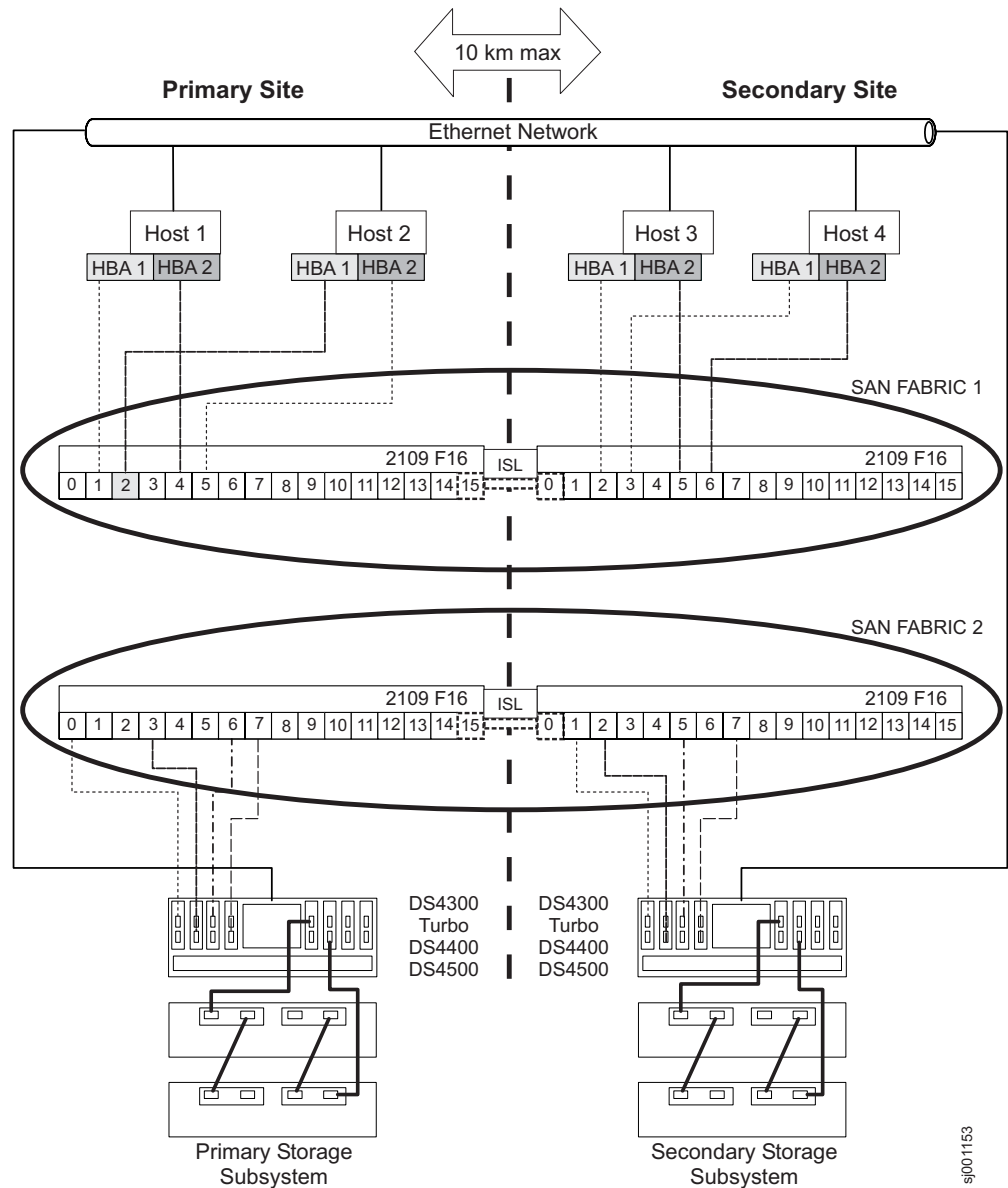

Figure 41. Highest Availability Campus configuration
Figure 41 on page 117 shows the Highest Availability Campus configuration after installation is complete.
Important: The Fibre Channel switches in Figure 41 on page 117 contain 16 ports each, which leaves many unused ports per switch. If you are performing switch zoning using the Fibre Channel host port number, instead of the WWNN of the SAN fabric logged-in ports, do not include Fibre Channel switch ports with no Fibre Channel connections in the zone definition. If you include these unused ports in your zones, unauthorized access to the SAN might result.
Figure 41 on page 117 shows how the four Fibre Channel switches are cabled for this Highest Availability Campus configuration. The zones are configured on the switch to allow one port per zone for a storage subsystem connection, and one HBA port per zone for each host. There are four zones in the following configuration example.
- Refer to Figure 41 on page 117 as you complete the steps in this procedure.